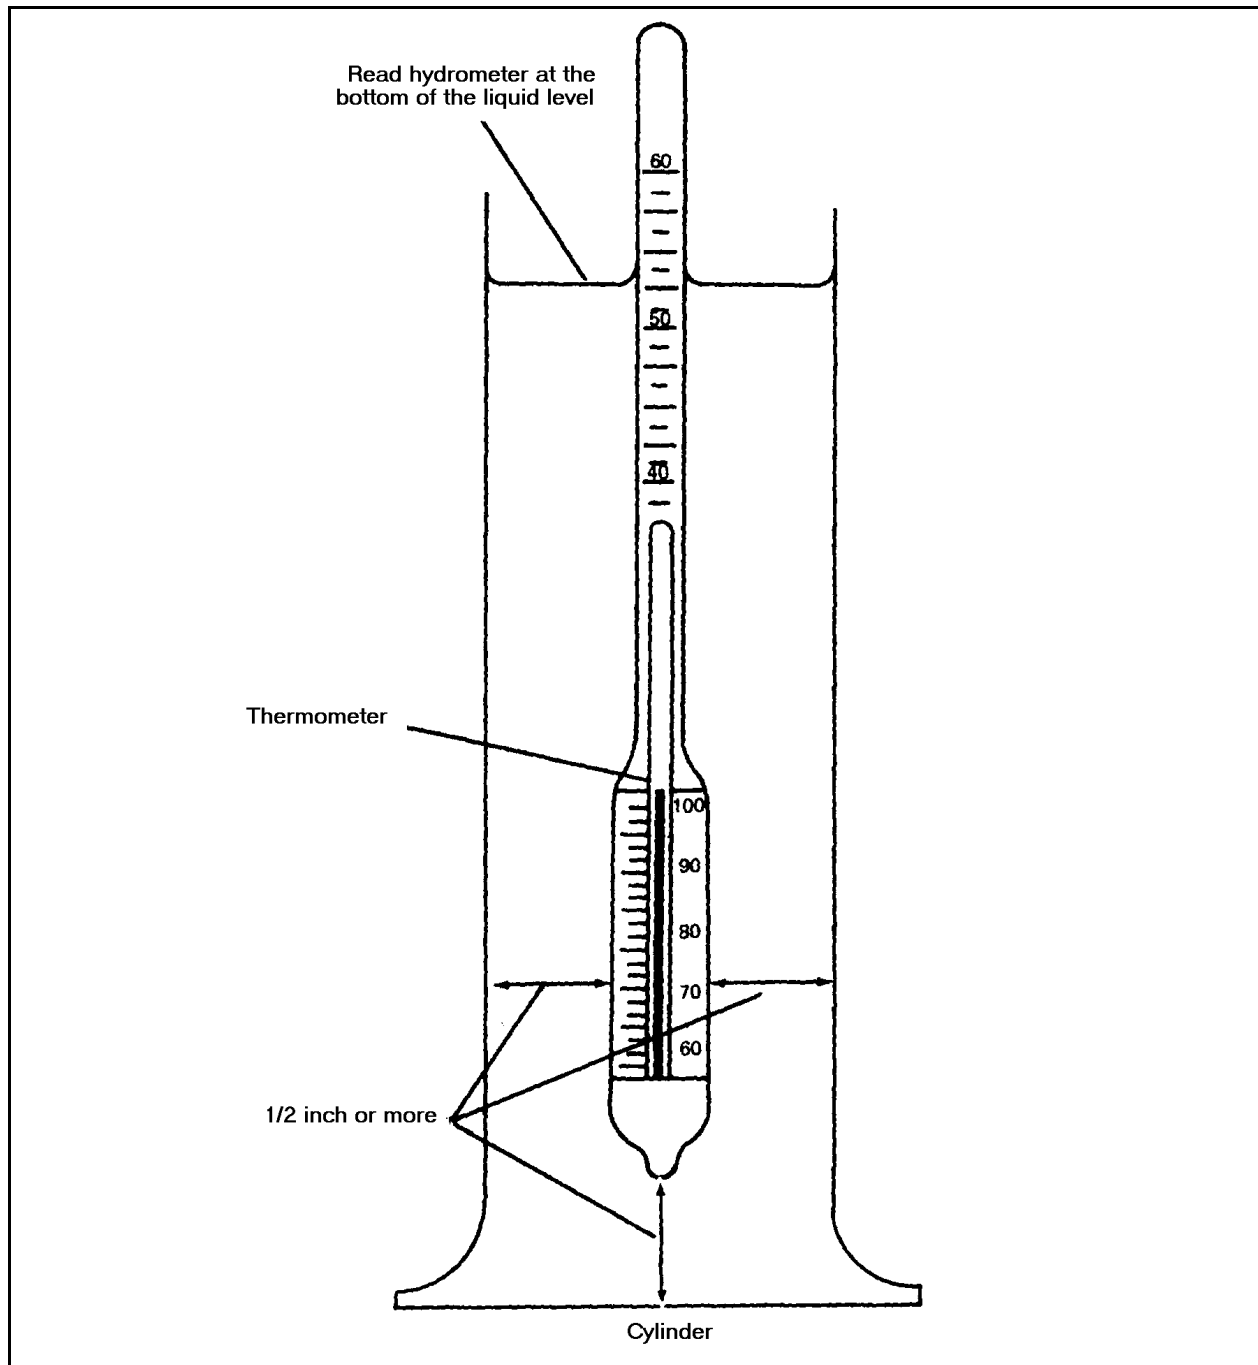

Figure I-2. Hydrometer ready to be read
• Step 11. When the hydrometer is floating freely at rest, read it to the nearest scale division. Have your eye slightly below the level of the liquid, and raise it slowly until the surface of the liquid appears to be a straight line across the hydrometer scale. Record the gravity reading to the nearest scale division as shown in Figure I-2, page I-3.